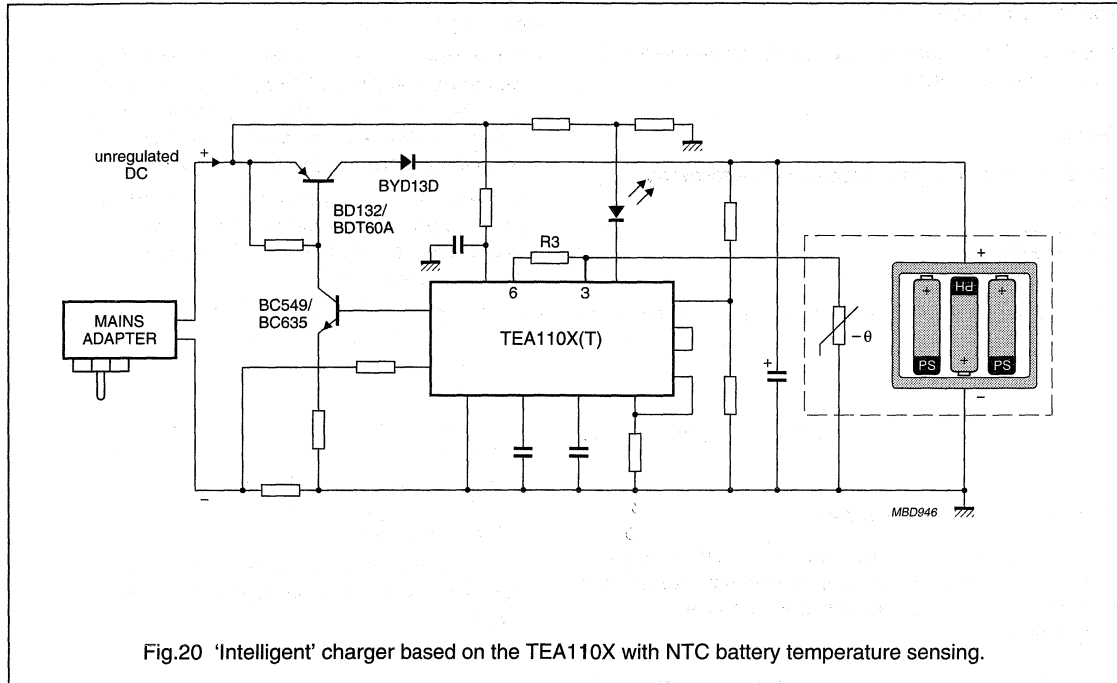

Fig.20 'Intelligent' charger based on the TEA110X with NTC battery temperature sensing.
Figure 20 shows the circuit diagram of an 'intelligent' charger designed to charge, within 1 hour, a NiCd or NiMH battery pack containing up to six AA-type cells. The TEA110X allows any type of power regulator to be used. In Fig.20, the unregulated 12 V (DC) supply is passed